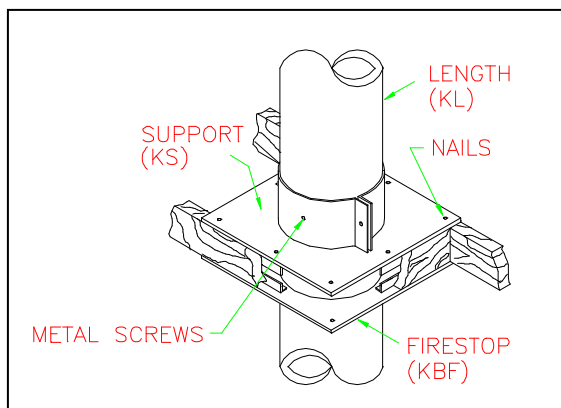

Figure 3
4. Install the KBF firestop from below (Fig.3).
5. Lower the first section from above until it reaches the appropriate location for venting the appliance. Tighten the floor support collar around the vent. Then secure the vent using 3 metal screws through the collar into the vent casing making sure that the screws do not puncture the vent flue pipe (Fig.3).